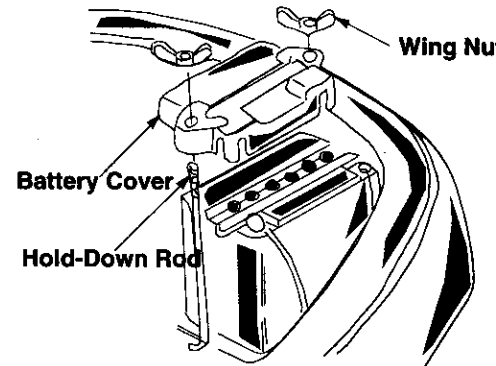

Figure 4
- Place the battery into the battery opening with positive terminal toward the rear of the unit. Make certain both the negative (black) cable and the positive (red) cable are routed up through the battery opening. See Figure 4.
- Attach the positive (red) cable to the positive terminal of the battery. See Figure 4. Secure with hex bolt and nut provided with the battery. Slide rubber boot over the positive terminal.
- Attach negative cable to the negative terminal with a hex bolt and nut provided. See Figure 4.
- Pull up on the hold-down rods through the holes on the battery cover and insert one wing nut on each hold-down rod. Tighten the two wing nuts to secure the battery to the unit. See Figure 4.